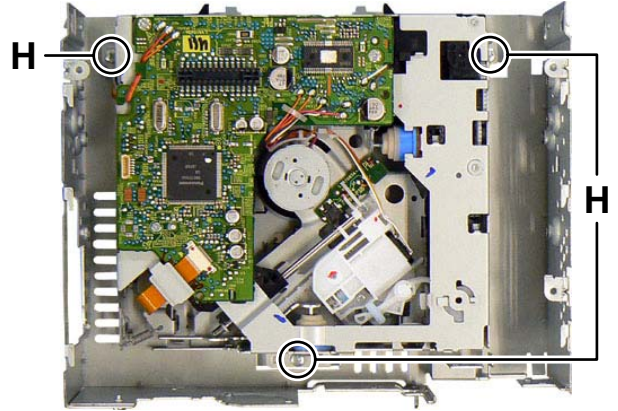

Fig.7
### 3.1.4 Removing the CD mechanism (See Fig.7)
### 3.2.4 Removing the PHOTO BOARD assembly (See Fig.7 and 8)
- From the bottom side of the top cover, release the projection **e** from the notch of the disc plate. (See Fig.7.)
- Take out the disc plate in the direction of the arrow. (See Fig.7.)